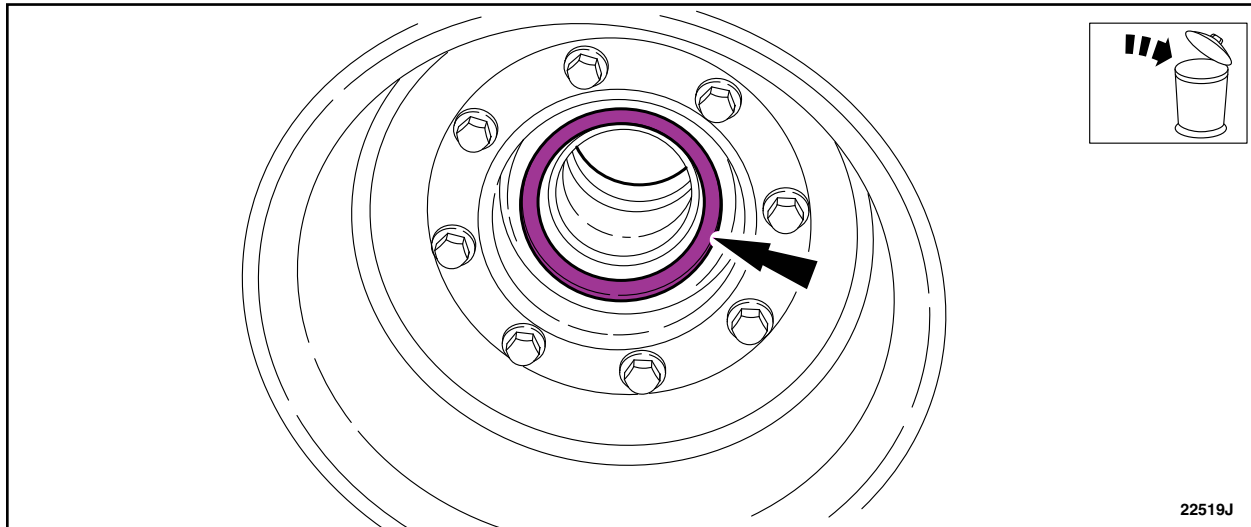

FIGURE 8
8. On both wheel hub and rotor assemblies that **PASSED** inspection, remove and discard the rear hub seals. See Figure 8.